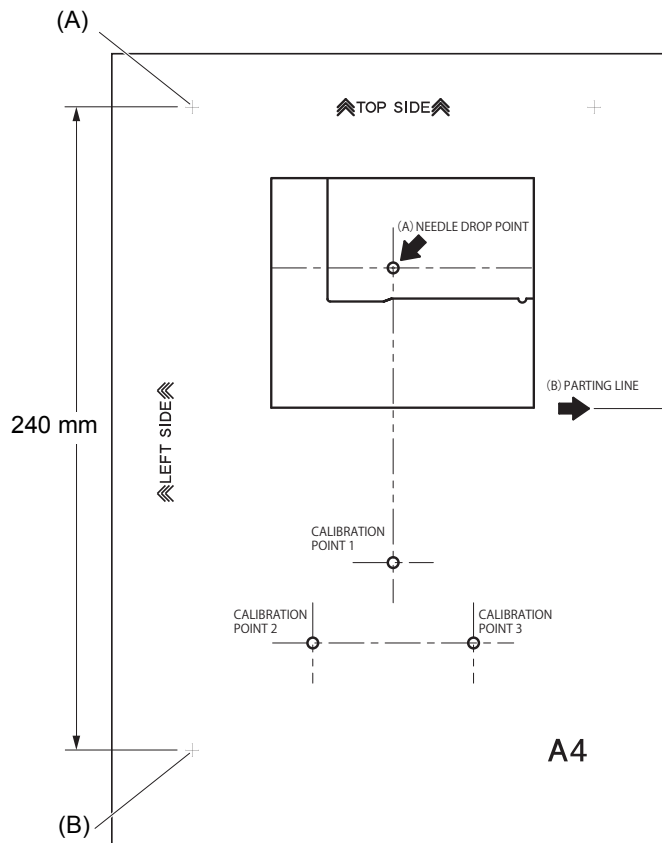

Fig.2: Calibration sheet (for sensor pen)
- After printing, check that the distance between the cross "A" and "B" is 240 mm. (Fig.2)